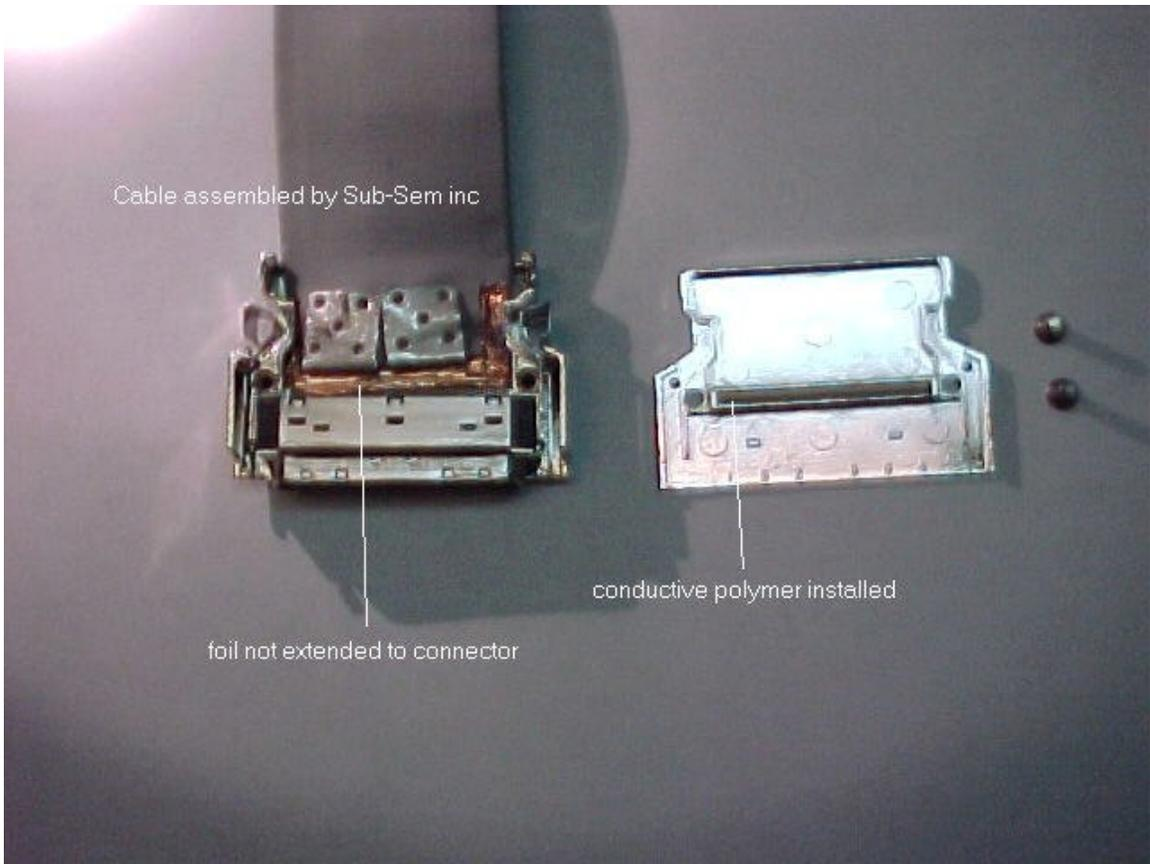

Figure 2
- The second example is better but the foil shield does not extend to the connector housing. See figure 2.